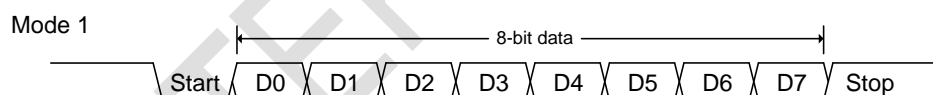

Figure 18-1. Mode 1 Data Frame
Mode 1: 10 bits are transmitted through TXD0 or received through RXD0. The framed data includes a start bit (0), 8 data bits (LSB first), and a stop bit (1), as shown in Figure 18-1. On receive, the stop bit would be loaded into RB80 in S0CON register. The baud rate is variable.